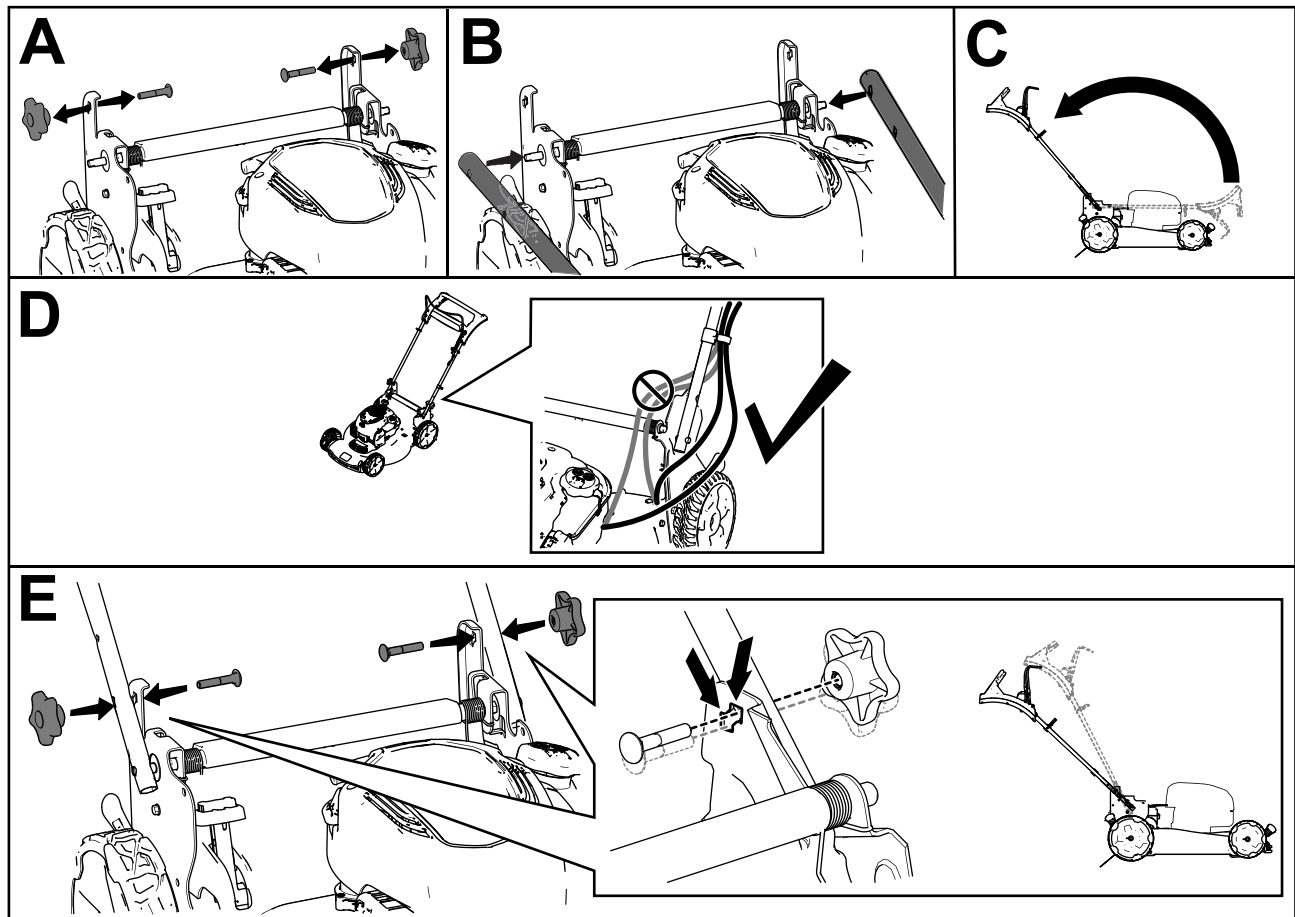

Figure 3
**Note:** Ensure that the cables are routed on the outside of the handle and are not pinched (D of Figure 3). The knob and carriage bolt have 2 installation locations. Installing the knob and carriage bolt incorrectly may cause instability in the handle (E of Figure 3).